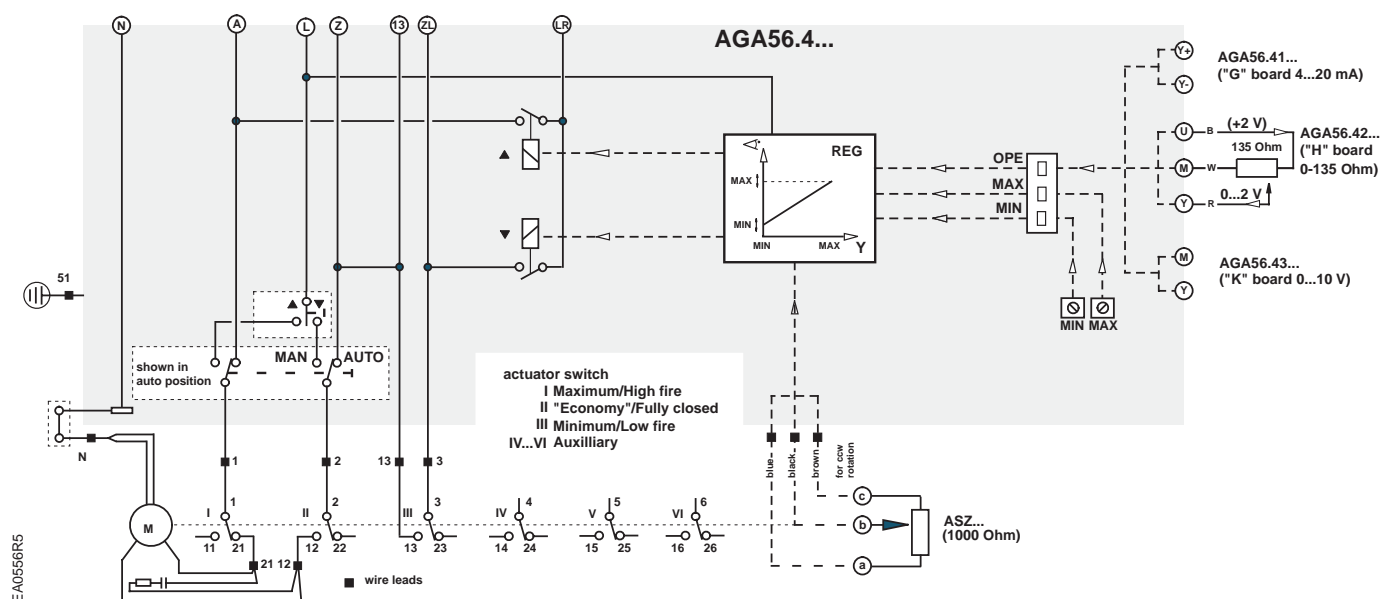

Figure 9. Basic Functional Diagram of AGA56.4...
See Figures 9 and 10.
9. Connect the input control signal wires to the appropriate terminals. See Figure 9.